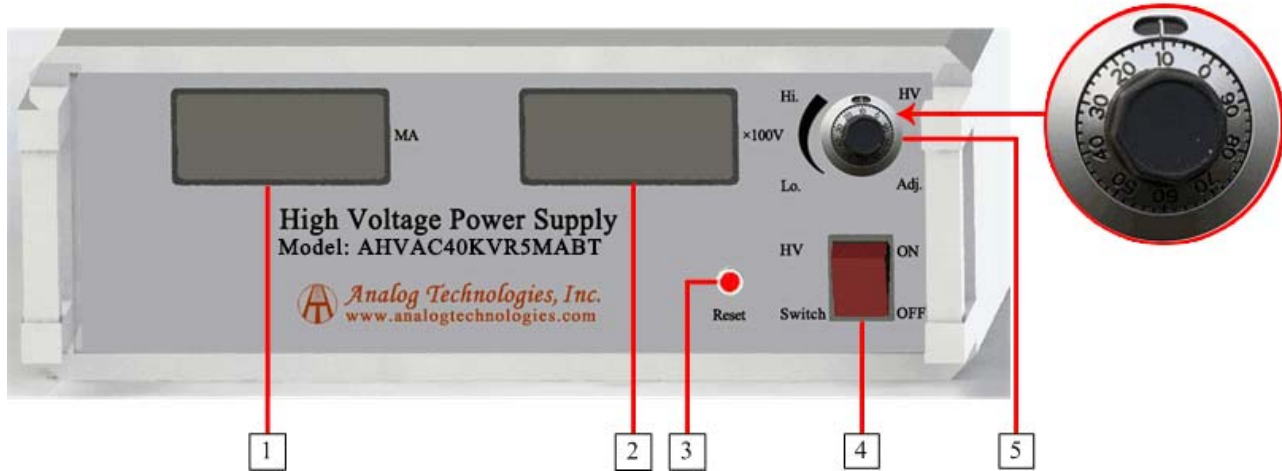

Figure 2. Front Panel
5. HV adjustment: 10-turn potentiometer for adjusting output voltage. Rotate it clockwise to increase the output voltage, and the potentiometer resistance = the corresponding scale  $\times$  10 $\Omega$ . For example, as Figure 2 shows, when the scale is 10, and the frame above the scale shows 1 (1k $\Omega$ ), then the resistance =  $10 \times 10\Omega + 1k\Omega = 1.1k\Omega$ , and the like.